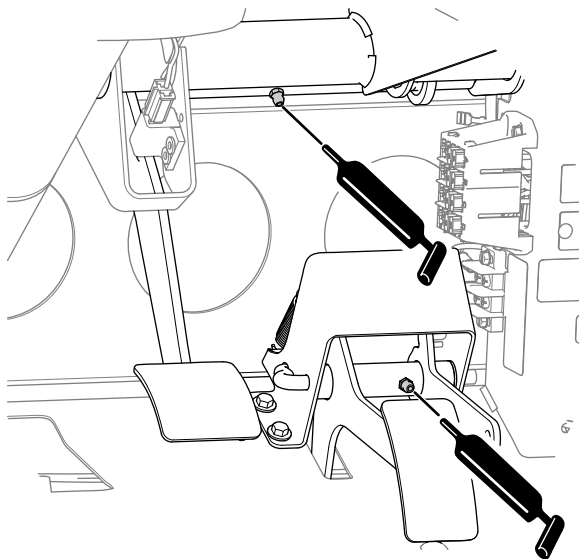

Figure 38
- **Brake (1)**; refer to Figure 38
- **Throttle (1)**; refer to Figure 38